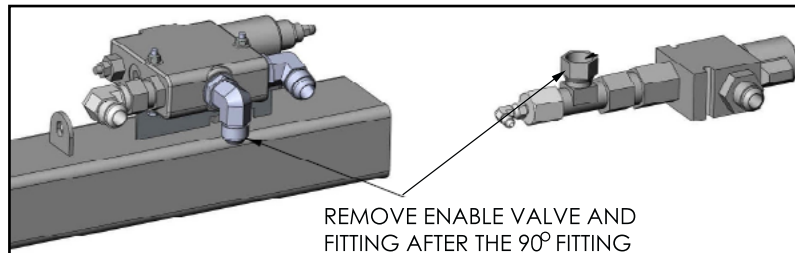

Figure 4 - Disconnect Enable Valve and Fittings
1. Remove enable valve and fittings after the 90° fitting (Figure 4).